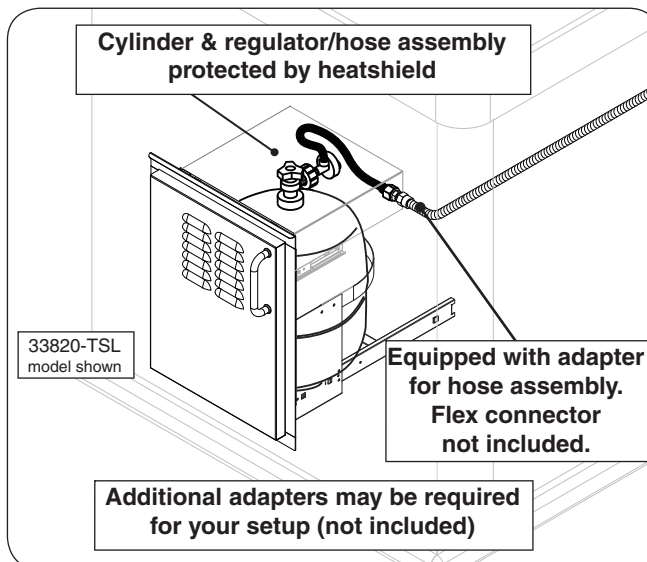

Fig. 12-3 Optional RHP door w/ tank tray
- **RHP offers propane tank door with tank tray models and a propane tank heatshield that rests directly on the tank to meet the cylinder install requirements. Propane tank door with tank tray shown in Fig. 12-3. Contact your dealer for ordering information.**